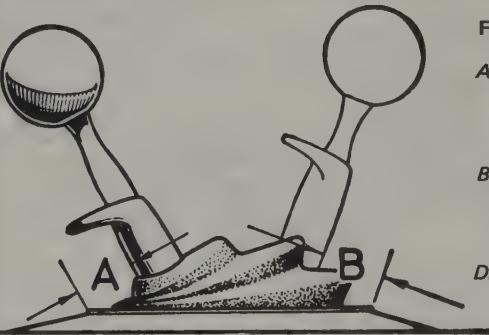

Fig. 6.35. Gear lever clearance check
- 16 Refer to Fig. 6.35 and make sure that there is a clearance between the gearchange lever and tunnel finisher when first and reverse gears are selected.